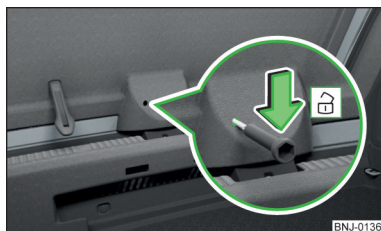

Fig. 195
- Insert a screwdriver or similar tool into the opening in the trim » Fig. 195 as far as the stop.